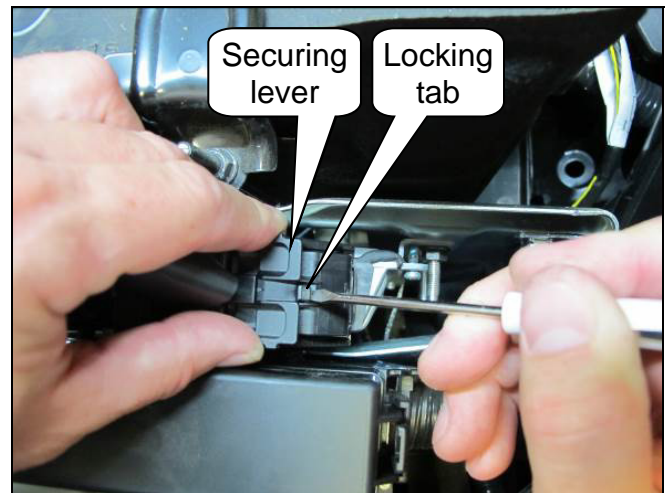

Figure 2
- Press down on the locking tab, and then pull up on the securing lever to disengage each ECM harness connector (see Figure 2).